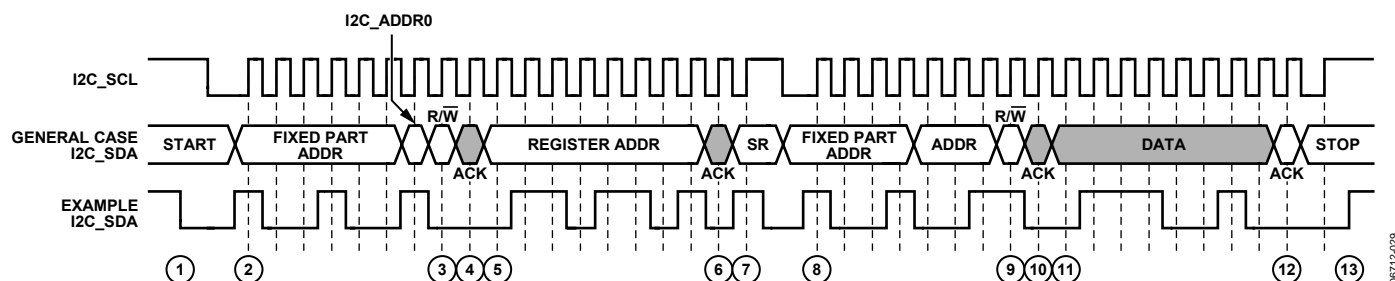

Figure 30. I²C Read Diagram
To read data from the ADV3000 register set, an I²C master (such as a microcontroller) needs to send the appropriate control signals to the ADV3000 slave device. The signals are controlled by the I²C master, unless otherwise specified. For a diagram of the procedure, see Figure 30. The steps for a read procedure are as follows:
9. Send the read indicator bit (1).
- 13a. Send a stop condition (while holding the I2C_SCL line high, pull the SDA line high) and release control of the bus to end the transaction (shown in Figure 30).